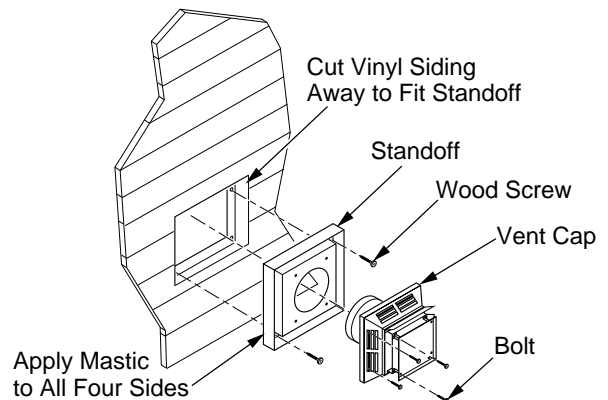

Figure 29 - Installing Vinyl Siding Standoff (Combustible Exterior Wall)
- If installing horizontal vent termination cap on an exterior wall with siding, you must use a vinyl siding standoff (see Figure 29, page 14).
Combustible Exterior Wall: For vinyl siding, stucco, or wood exteriors, a siding standoff must be installed between the vent cap and exterior wall. The siding standoff prevents excessive heat from damaging siding materials. Siding materials must be cut to accommodate standoff. Bolt the vent cap to the standoff. Apply non-hardening mastic around outside edge of the standoff. Position the standoff/cap assembly in the center of the 10" (25.4 cm) square hole and attach to exterior wall with wood screws provided (see Figure 29). The siding standoff must sit flush against the exterior fascia material.